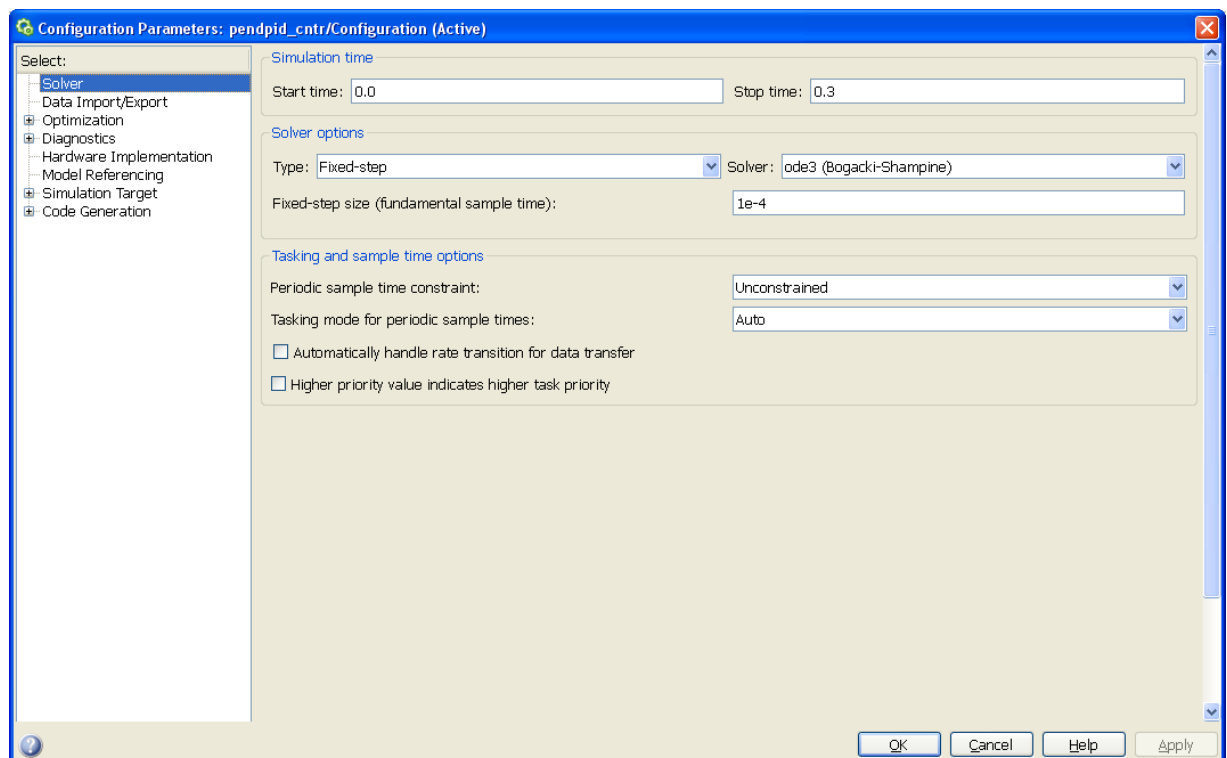

Figure 4.4. Configuration Parameters dialog window (Matlab R2006a)
3. Set **Start time** to **0.0**, **Stop time** to **0.3**, in the **Type** list select Fixed-step, set **Fixed-step size** to **1E 4**, **Solver** to **ode3(Bogacki-Shampine)**. After all these setting the **Configuration Parameters** dialog window should look like the window in Figure 4.4.